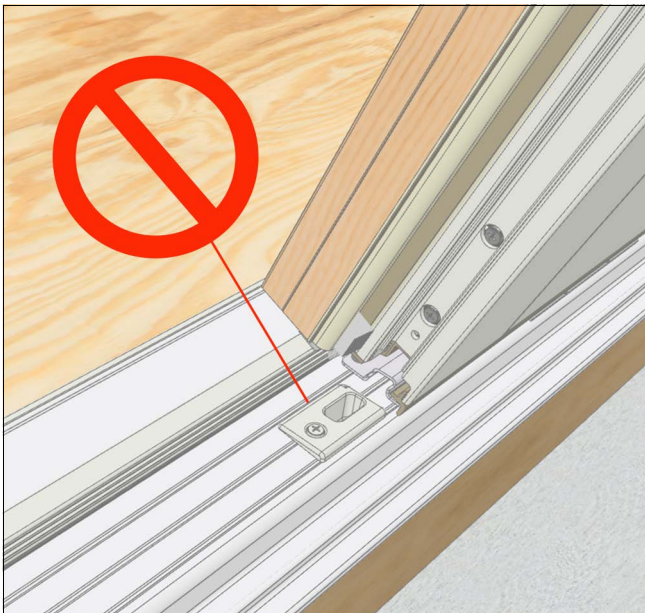

Figure 26
1. Ensure sill strike is not installed into the sill prior to installing the stationary panel to avoid catching stationary panels retainer bracket on the strike. See Figure 26.